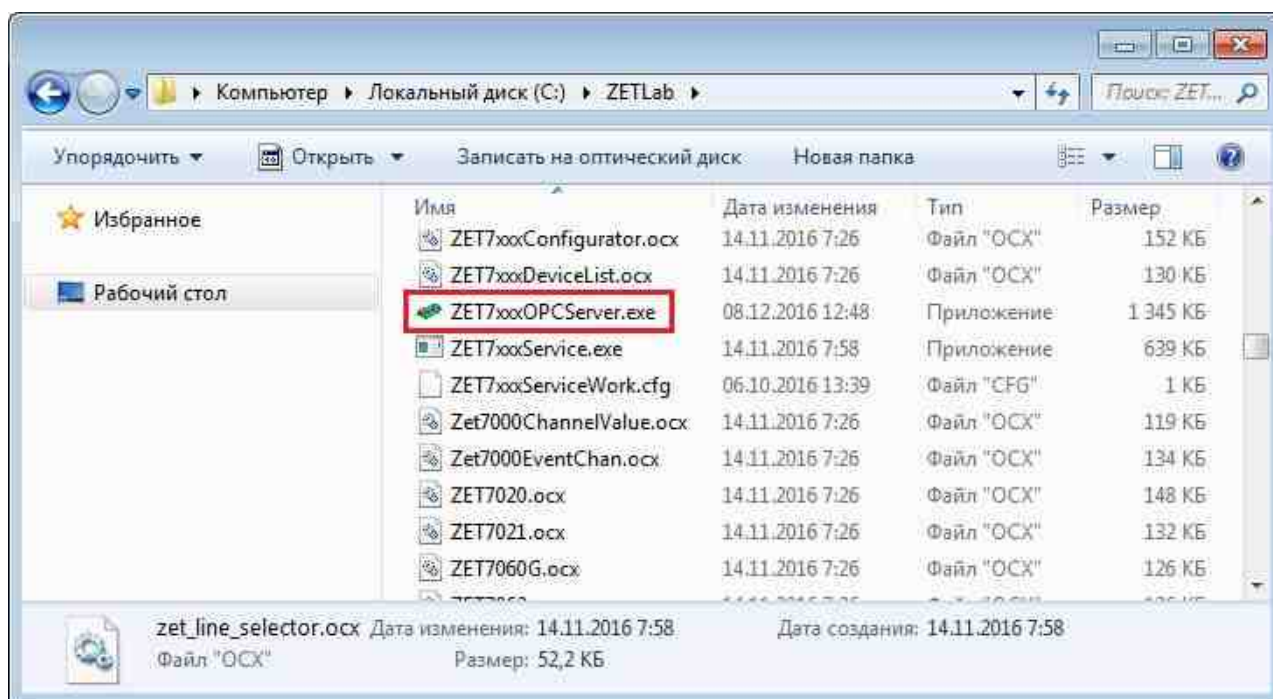

Fig.8.4 Starting the ZET7xxx OPC Server program
5. Run the ZET7xxx OPC Server program by activating the ZET7xxxOPCServer.exe executable file located in the directory: C:\ZETLab (Fig.8.4).